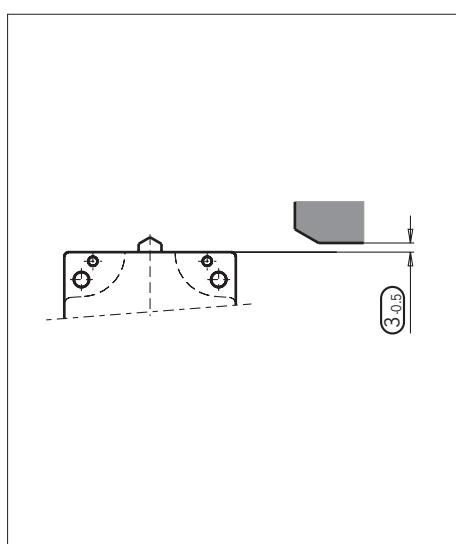

Bild 3: Montage SN...-508 und SN...-514 für Sicherheitsschaltkreise
- ▶ It is imperative that dimension  (distance from switch reference surface to trip dog, see Figure 3) is maintained in safety circuits to ensure safe contact opening.